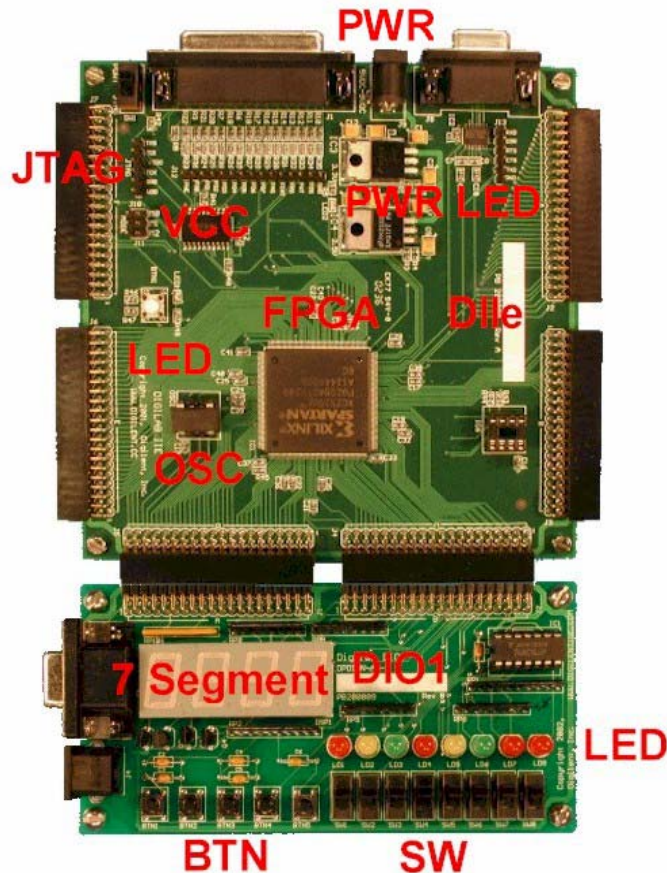

Figure 1
The target Xilinx FPGA, a Spartan XC2S200E, resides on a Digilent D1le hardware board, as shown below. The D11e board has an indicator light emitting diode (LED) and a 50 MHz master clock oscillator (OSC), as shown below. The process to be designed will also use the Digilent DIO1 input-output (IO) hardware board, which has 8 slide switches (SW), 5 pushbuttons (BTN), 4 numerical displays (seven-segment), and 8 light emitting diodes (LED), as shown in Figure 1 below.
The D1le and DIO1 are mated at the C and D connector of the D1le. The programming cable is placed on the JTAG port with the clearly marked pin labeled VCC at the interior of the D1le, as shown in Figure 1. The other end of the programming cable is inserted into the parallel port of the Laboratory PC. Finally, a 3.3 VDC power supply plug is inserted at the matching jack (PWR) and the power LED (PWR LED) will indicate that the hardware boards are ready. If any of this does not seem correct to you, ask the Laboratory Assistant to verify the DIO1-D1le hardware setup.